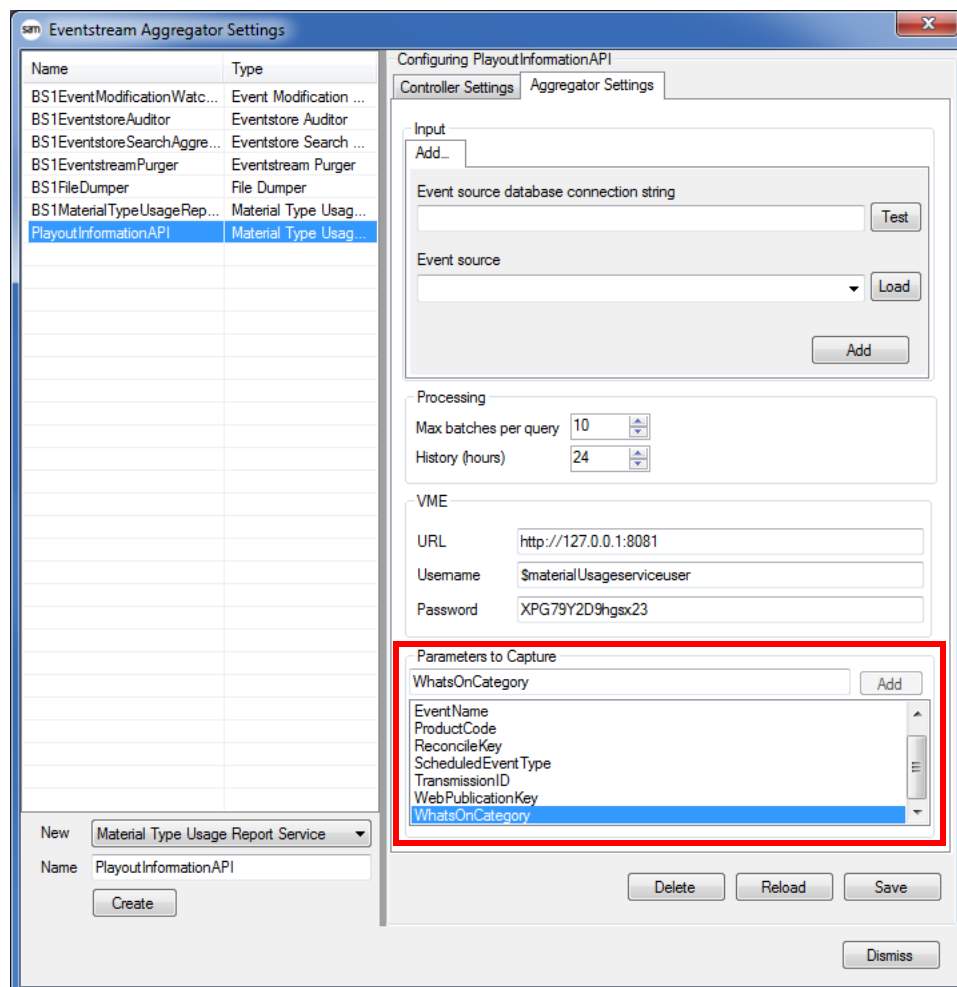

Fig. 2-1: EventStream Aggregator Settings
Customer specific Event Parameters must be defined in the EventStream Aggregator model in order to be reported on following an HTTP request (Figure 2-1). This does not apply to the following intrinsic parameters:
- The default name of the VME Provider is referenced in code, and must therefore remain as 'PlayoutInformationAPI'. It is, for example, configured as such in the 'Eventstream Aggregator Settings' user interface (Figure 2-1)